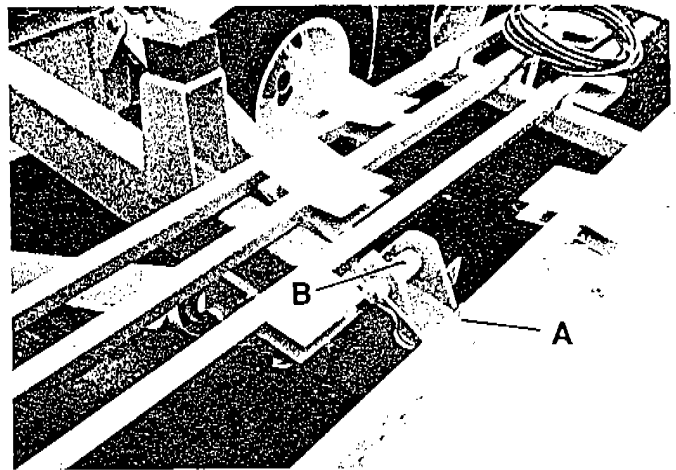

Fig. 71
- (5) The blank support leg rests along the inside edge of the rotating platform deck (d). Fit the hole in the center of the leg over the pin (a) that is located on the deck. (Fig. 71)
platform frame out to the rotating platform deck. Remove the snap key and pin from the ears. (Refer to Fig. 71)